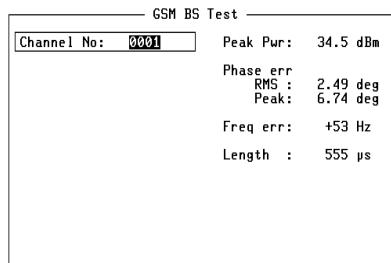

Fig. 10.3: After
- Start test with **(TX-TEST)**. The labelling of the softkeys changes (**Fig. 10.3**). Continuous measurements are performed and the results are displayed.
(RETURN)	Takes you back to the GSM BS-Test mask (Fig. 10.3).